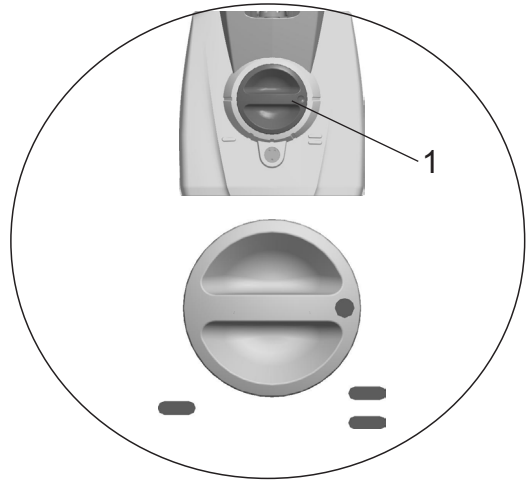

Fig. 6
- Depress the knob (Fig. 6/1) and turn it to any of the five positions.